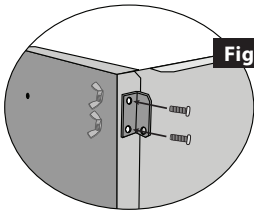

Figure 2
3. **RIGHT BRACKET:** Attach the right side panel to the back panel through the right bracket. Green sides out, gray sides in. The single hole of the bracket goes to the bottom. Line up the two matching pre-drilled holes and secure with two bolts and wingnuts. Finger tight is good or you can tighten with a Philips screwdriver. **Figure 2.**